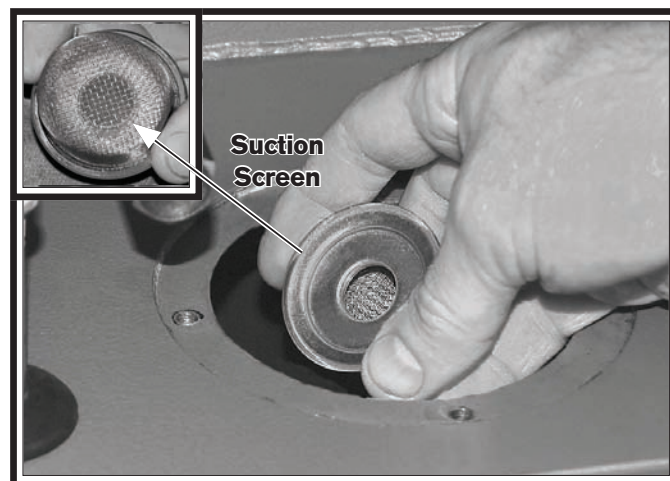

Figure 111. Suction screen removal.
8. After the tank is completely cleaned out, unthread the screen from the bottom of the pump suction pipe (see **Figure 111**), and remove the screen from the tank.